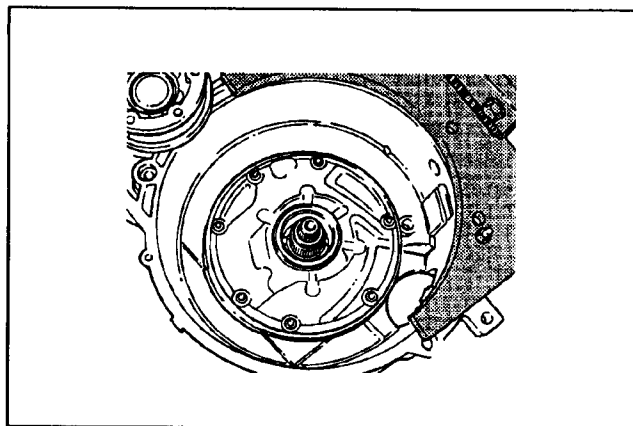

Figure 52
6. Remove the seven #30 Torx head bolts that hold the pump assembly in the case then set the bolts aside (See Figure 52).